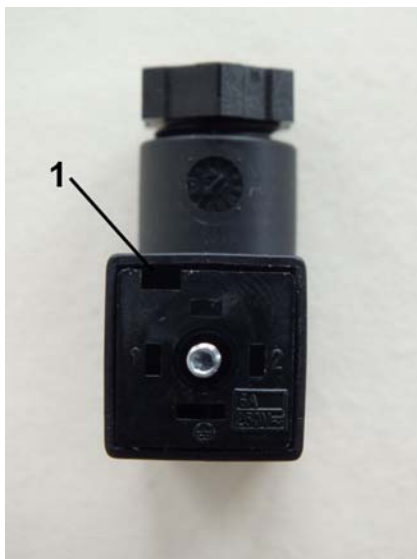

Fig. 22: Loosen inner section
3. ➔ Remove the inner section from the socket by inserting a flat-bladed screwdriver into the slot (Fig. 22/1) and carefully pry out the inner section.
7. ➤ Place the inner section (Fig. 22) back into the socket and push until it locks on